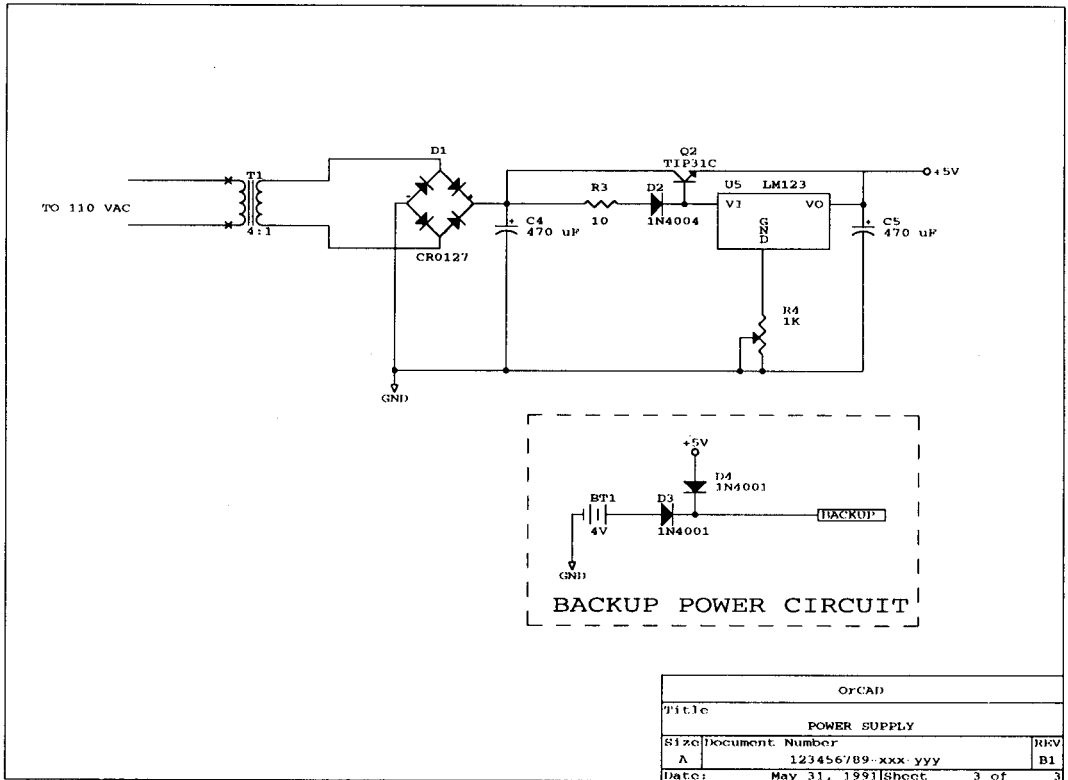

Figure 8-5. POWER SUPPLY worksheet.
2. Place the pointer inside the POWER SUPPLY sheet symbol and select **Enter**. Figure 8-5 shows the POWER SUPPLY worksheet.